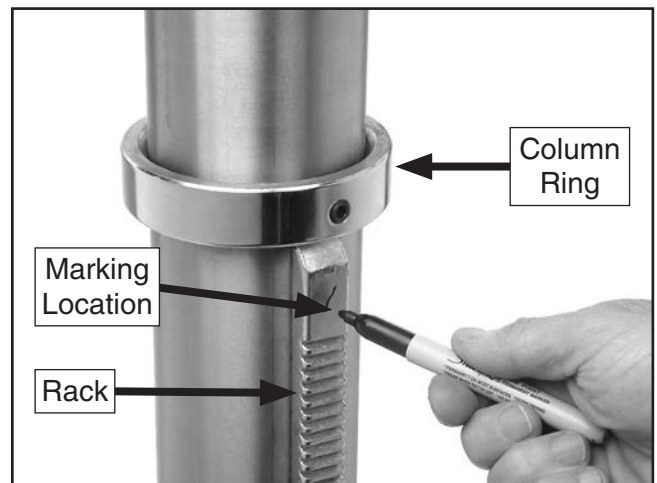

Figure 16. Marking top of rack to show which end is up.
4. Mark top of rack, as shown in **Figure 16**, to keep track of which end is up.